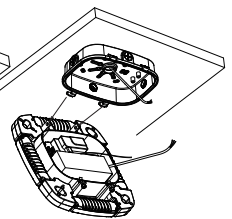

Figure 2-5
5. Insert the mounting holes horizontally on the shaft of driver cover; Figure 2-5